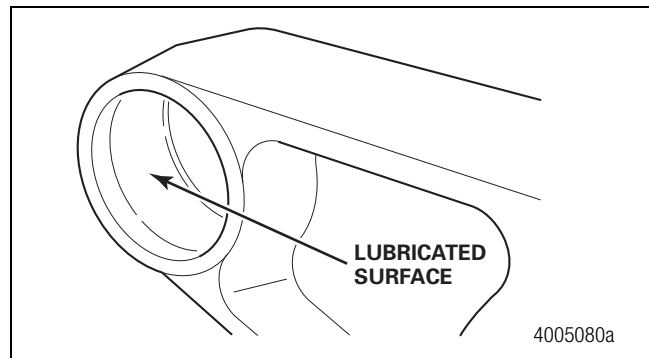

Figure 5
9. Using the Meritor lubricant supplied with the bushing kit, lightly lubricate the inside diameter of the upper control arm bushing tubes. Figure 5.